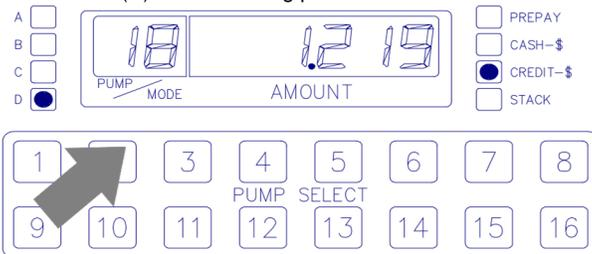

Figure 9
Figure 9 illustrates the display window just before the change button is pressed when programming the two tier credit, price of \$1.219 per gallon at the fourth (D) hose of fueling position 2.